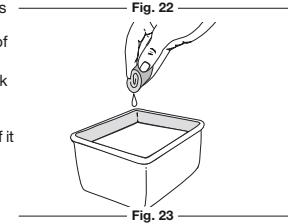

Fig. 23
- Wash the filter in detergent and water (Fig. 23). Rinse the filter thoroughly. Squeeze out excess water. Allow it to dry completely.